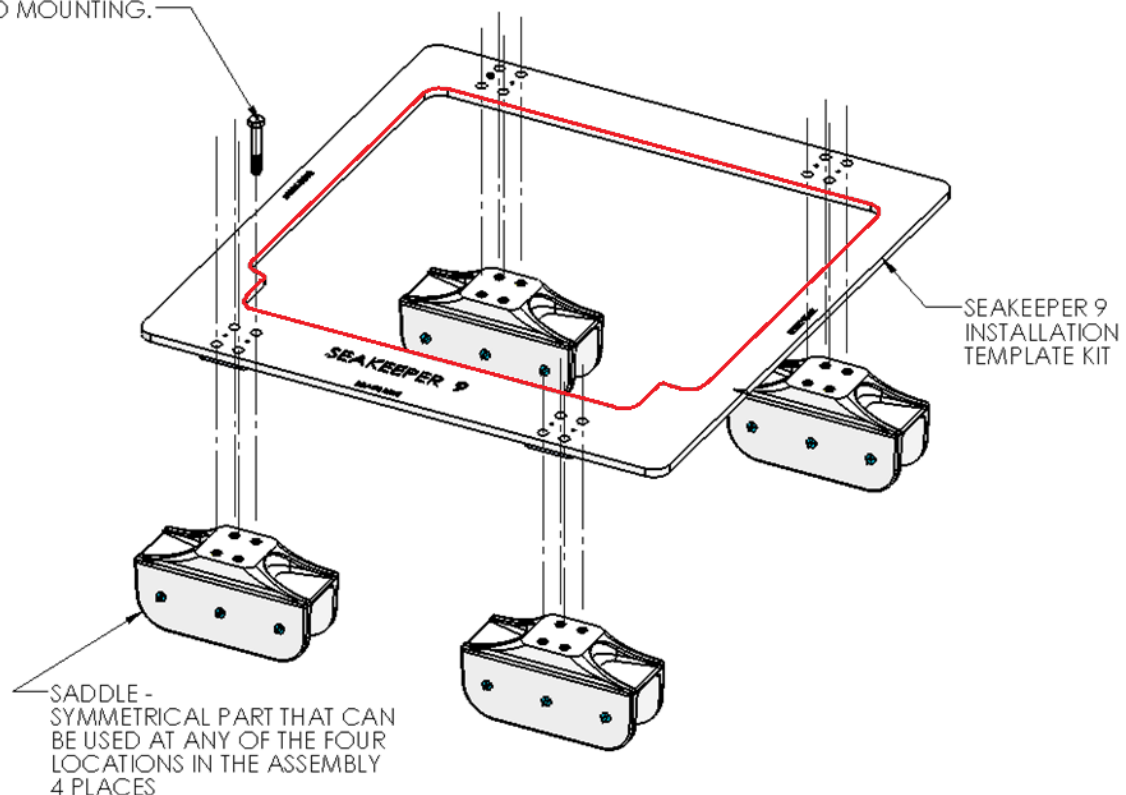
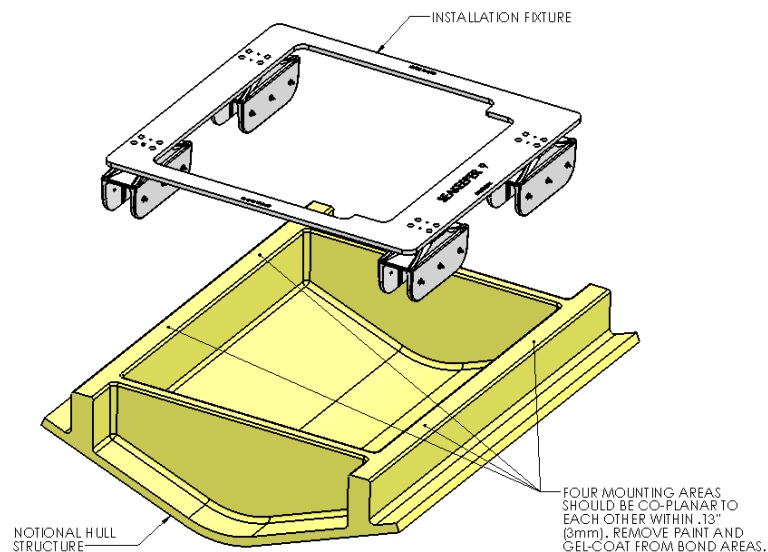
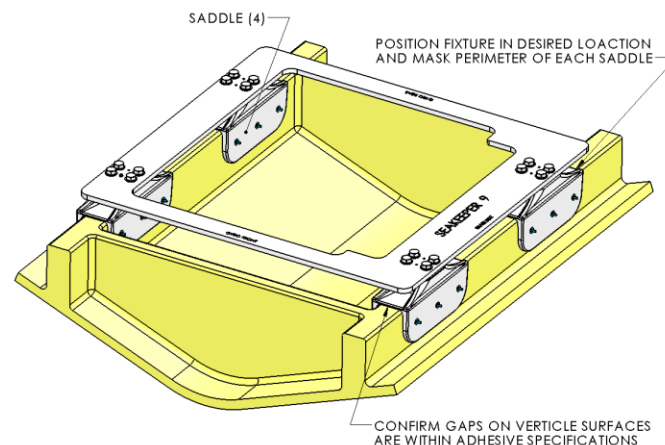

FIGURE 6 – EXPLODED VIEW OF SADDLE INSTALLATION FIXTURE
FIGURE 8 - INSTALLING FIXTURE ON HULL
FIGURE 9 - MASKING PERIMETER OF SADDLES
Seakeeper provides an installation fixture template, P/N 90253 that locates the saddles at the proper spacing both in the fore-aft direction and the port-starboard direction. See Figures 6, 7 & 8 below. Once assembled with the provided saddle fittings, the fixture can be used to check clearances and alignment of the hull structure. The fixture will allow the builder / installer to lay-up and adjust the foundation dimensions to create a low-clearance fit between the Seakeeper
- 1) Position installation fixture (Fig 8) on hull girders noting recommended clearances for maintenance from Figure 2. Check that the screws fastening the saddles to the installation fixture are tight (Fig 6).
- 2) Mask hull area (Fig 9) around foundation saddles for easy clean-up and to create outline of surface area to receive adhesive as (Fig 8). Insure that the bond gap is within the manufacturer's recommended thickness, or 3 mm if using Plexus MA590.
- 3) Raise fixture clear of foundation. Check all four mounting areas are co-planar to within .13" (3 mm) to each other, as well as parallel to the water line plane, as shown in Fig 8.
- 5) Remove any paint or gel-coat from bond surfaces so that adhesive will bond directly to laminate fibers and resin as shown in Figure 8.
- 1) Ensure that screws fastening saddles to the installation fixture are tight (Fig 6).